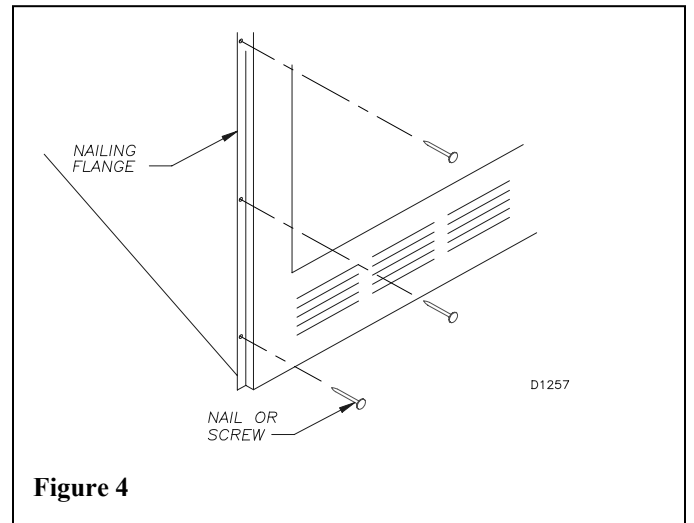

Figure 4
STEP 6: Using screws or nails, secure the fireplace to the framing through flanges located on the sides of the fireplace (see figure 4).